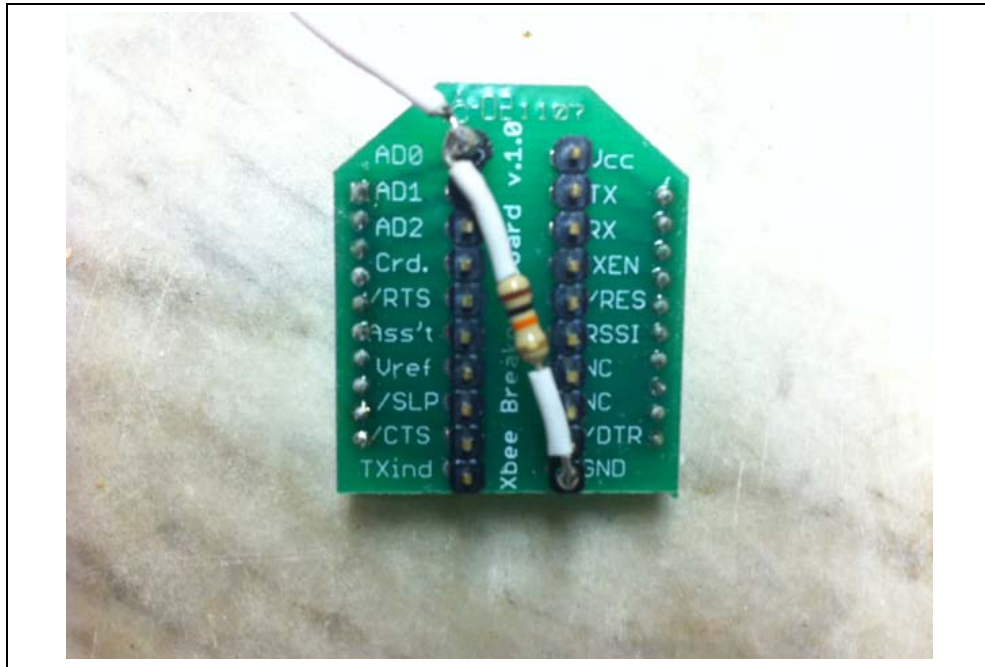

Figure 3. "Pull-down" resistor from AD0 to GND, showing insulation
1. Solder a 10K ohm resistor between pin 10 (GND) of the XBee breakout board and pin 20 (AD0). It may be helpful to insulate the leads of the resistor so that it does not touch other pins by accident. Stripping a bit of insulation off one of your hookup wires and sliding it over the resistor's leads is one way to accomplish this (Figure 3).